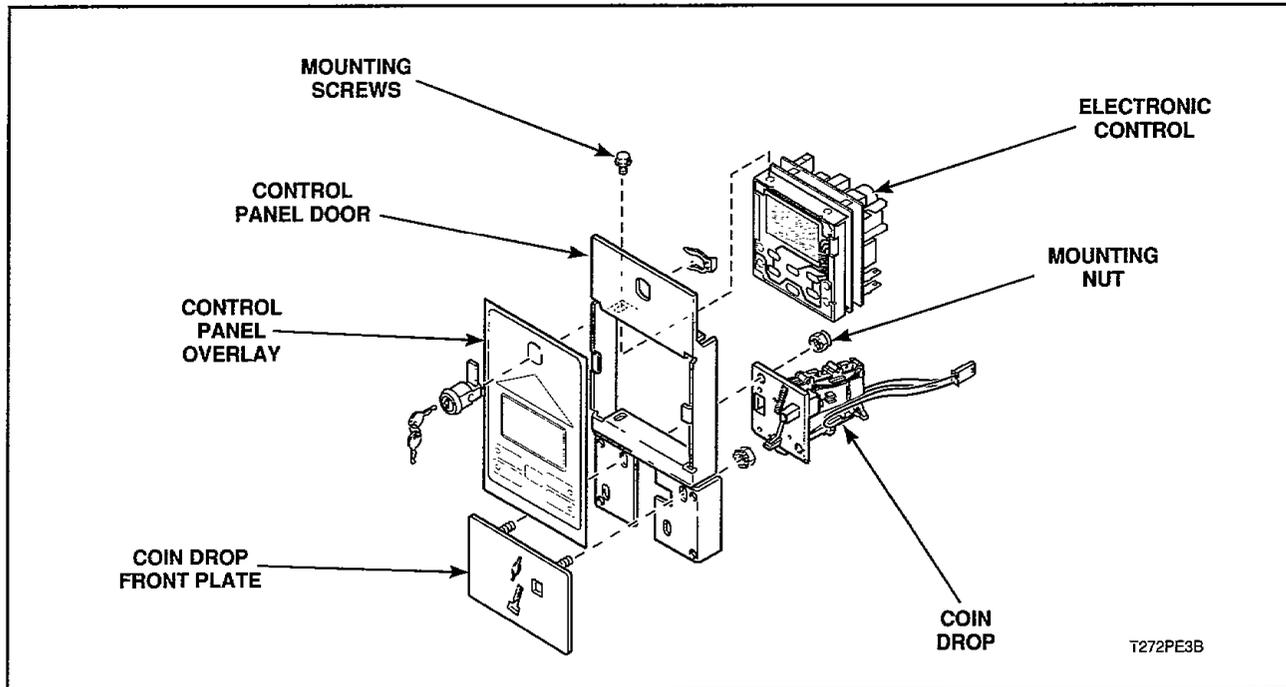

Figure 8
- a. Unlock and remove electronic control door, *Figure 8*.
- c. Pull electronic control out of control panel door and disconnect electronic control at the quick disconnect blocks, *Figure 8*.
10. COIN DROP ASSEMBLY (Figure 8)